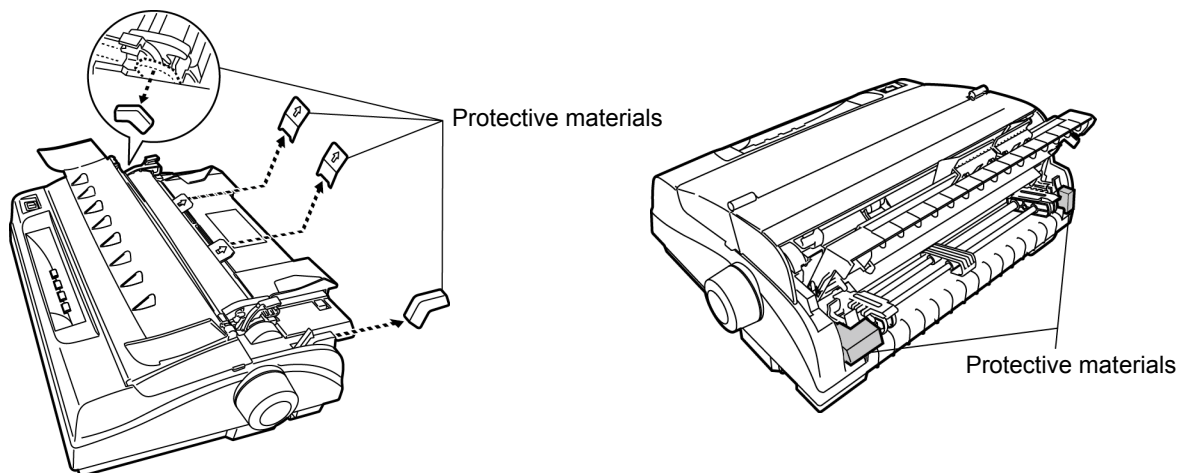

Figure 1-2 Removing protective materials
1. Open the packing box, take out the printer, open the window of the printer, and remove the protective materials shown in figure 1-2.